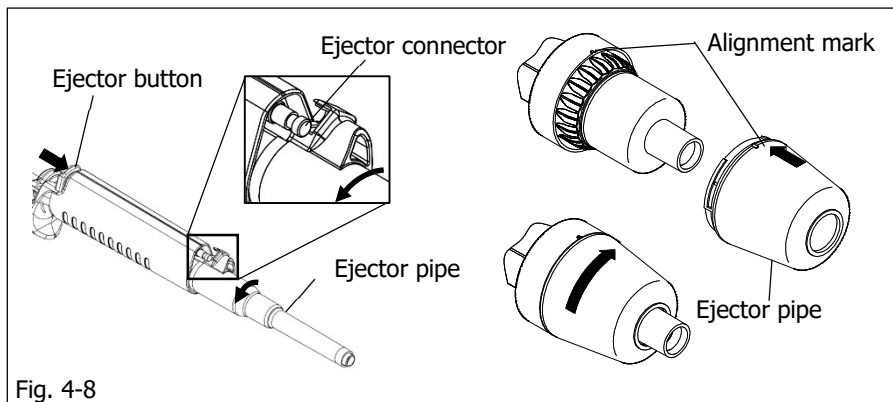

Fig. 4-8
2) Attach the ejector pipe(Fig.4-8)